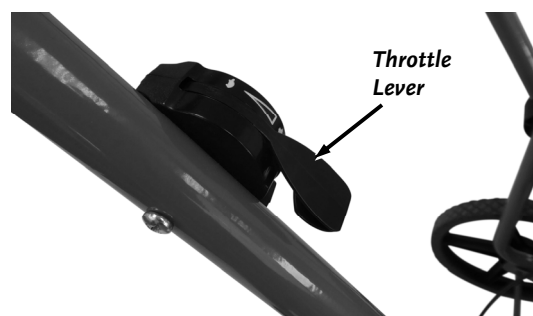

Figure 9
3. Adjust the Throttle Lever to the halfway position (**Figure 9**).
1. Slowly move the Throttle Lever to the IDLE (Turtle) position (**Figure 9**).